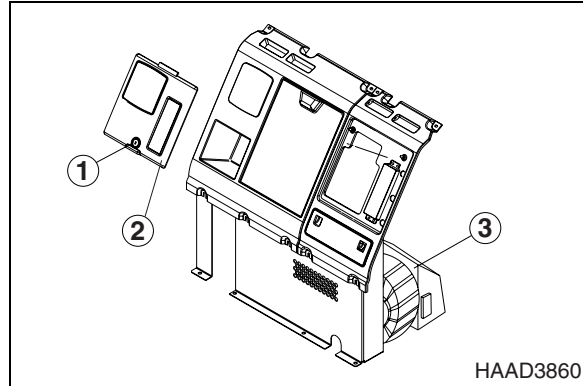

Figure 2
1. Turn the key cylinder (1, Figure 2) to open cover (2, Figure 2) behind the operator's seat.
3. Remove cover (2, Figure 2) from the rear box.
4. Remove filter cover (3, Figure 2) from the air-conditioning unit.